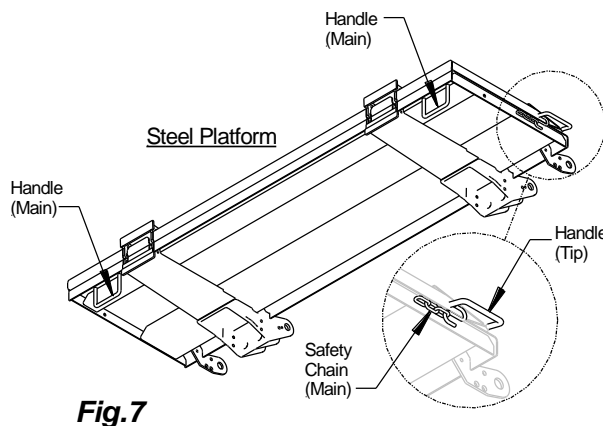
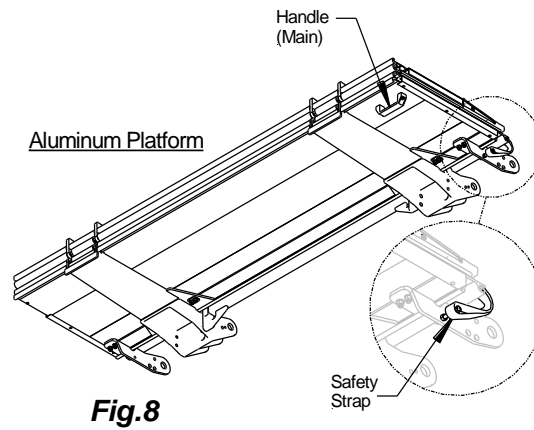

Fig.7
Fig.8
3. Identify the type of platform installed. Steel and aluminum platforms have different safety features. Steel platforms have a safety chain that secure the tip to the main, **Fig.7**. Aluminum platforms have a safety strap that secures the tip and main, **Fig.8**.